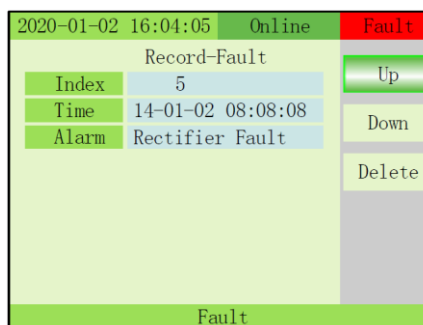

Fig. 3-23 Record - Faults menu
16) RECORD-FAULTS: Press to select Up or Down or Delete. Press OFF key to confirm (Fig. 3-23).